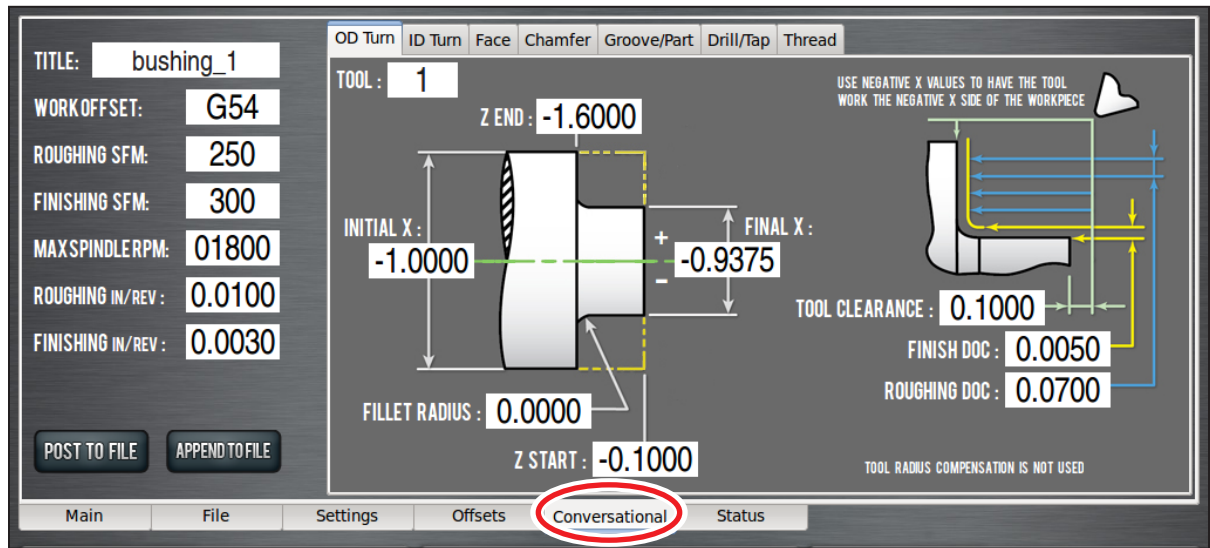

Figure 4.19
1. Go back to the *Conversational* screen and click on the *OD Turn* tab. Enter the values shown in **Figure 4.19**.